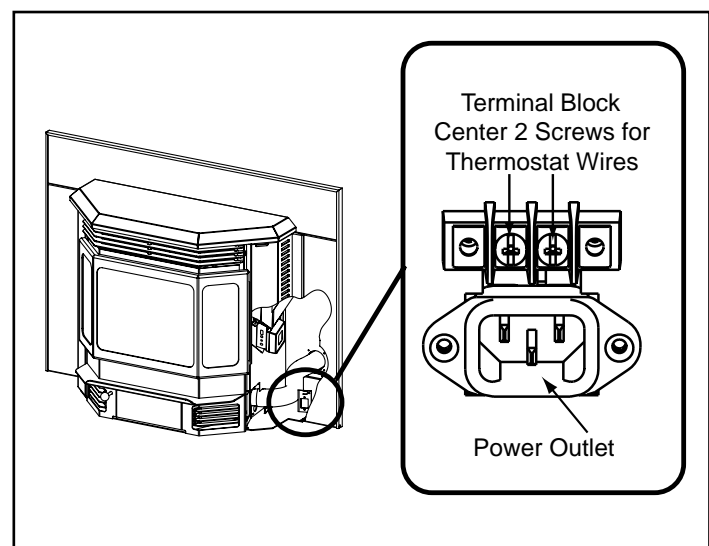

Figure 25.3
3. Open right side plane to access a 4 screw terminal block located on the bottom right hand side next to the power cord inlet. The center 2 screws are for the thermostat wires. The outer 2 are the mounting screws for the terminal block. **Figure 25.3**.